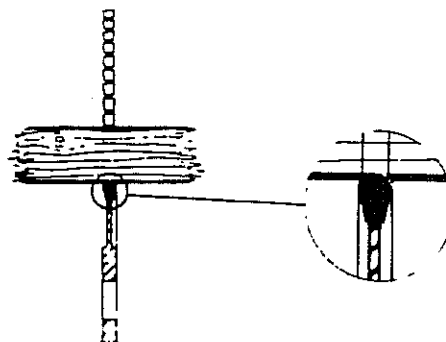

Fig.26
- 3) Conic scoring blade which enables the alignment with blades of different thickness or to obtain on the two edges of the panel two chamfers (fig.26)